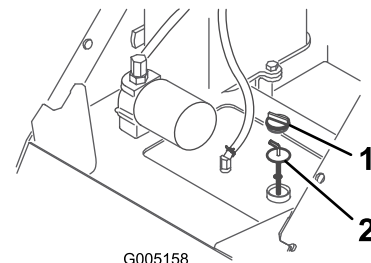

Figure 37
4. Clean the area around the filler neck of the hydraulic tank (Figure 37).
5. Remove the filler-neck cap and check the fluid level on the dipstick (Figure 37).